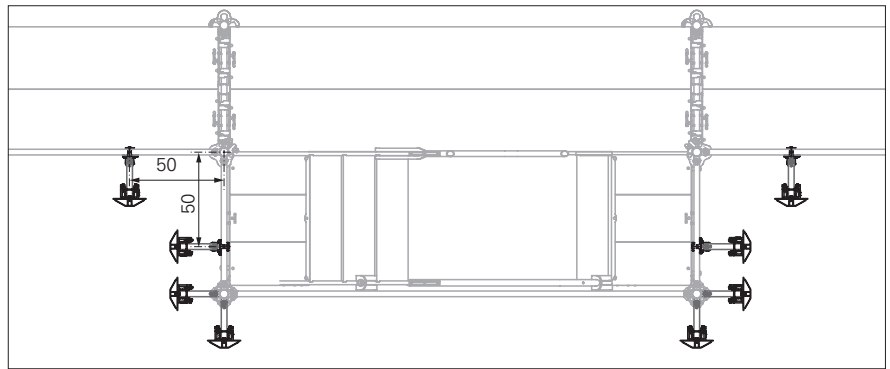

Fig. D1.02
3. Mount the support rails from the bottom to the top. (Fig. D1.02)